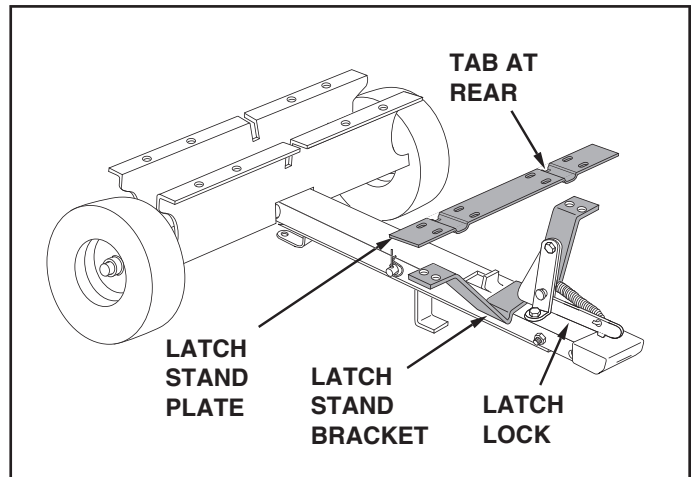

FIGURE 7
13. Turn the wheel support over to rest on the wheels. Place the latch stand bracket onto the tongue, sliding it underneath the latch lock. Turn the latch stand plate as shown in figure 7. The tabs at the ends of the channels must face the rear. Place the latch stand plate down onto the latch stand bracket. See figure 7.